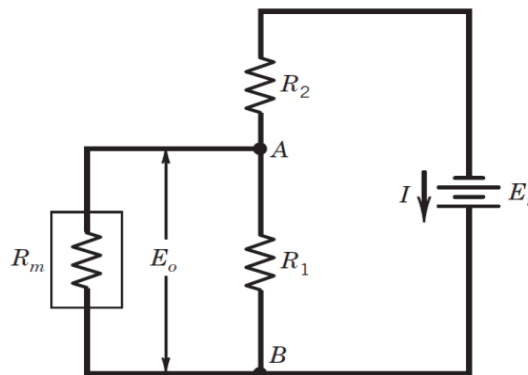

Figure Q3[b]
- [b] Consider the voltage dividing circuit shown in Figure Q3[b]. The parameters of the circuit are: $E_i = 10\text{ V}$, $R_T = R_1 + R_2 = 500\ \Omega$ and $R_1 = kR_T$, R_m is $10000\ \Omega$, $k = 0.5$.